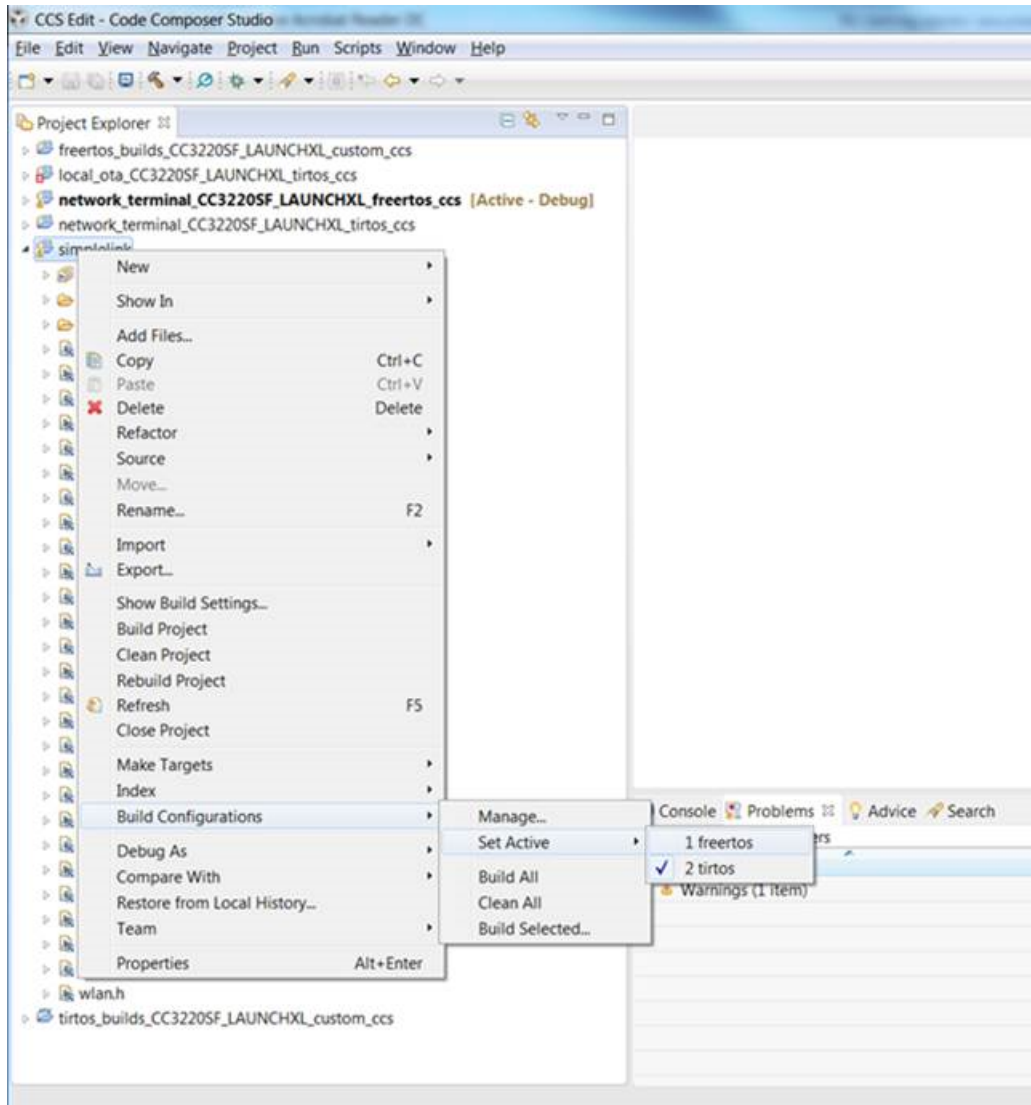

Figure 3-1. Select Debug Configuration
If from any reason the SimpleLink library must be rebuilt, the Build Configuration must be specified for the right OS (as seen in Figure 3-1).
1. Choose the relevant debug configuration (os_debug for getting started with WLAN station) from Project → Build Configurations → Set Active, as shown in Figure 3-1.